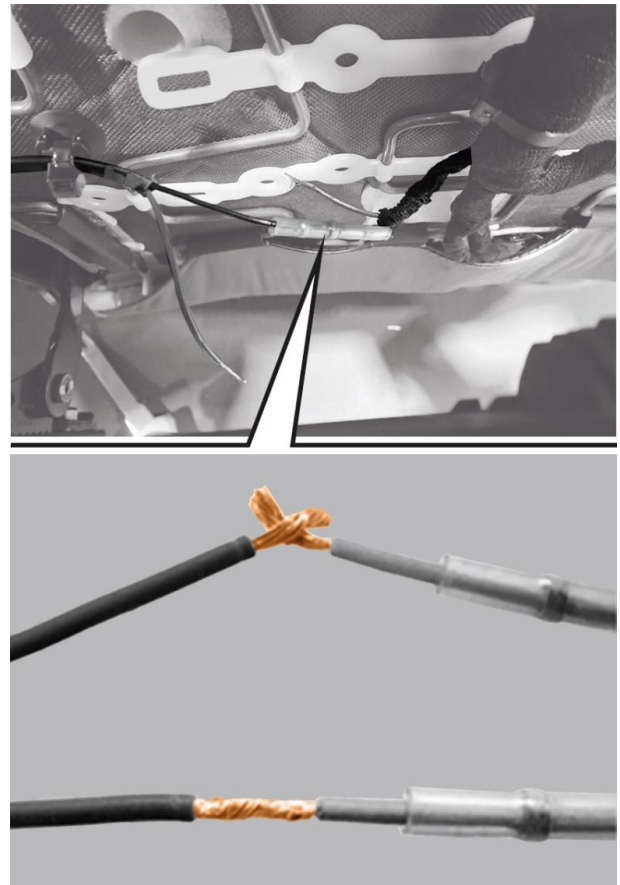

Figure 5 – Strip Wire Insulation
4. Braid the cable strands making sure to ensure the wires are in the same order as they were in the removed connector (Figure 5).